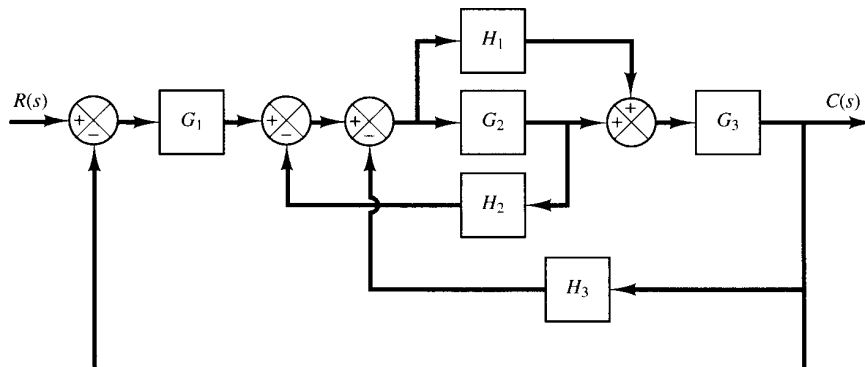

Figure 2 Block diagram of a control system
2. Find the transfer function, $T(s) = C(s)/R(s)$, for the system shown in Figure 2. If the feedback path of H_2 fails, what's the resultant transfer function?